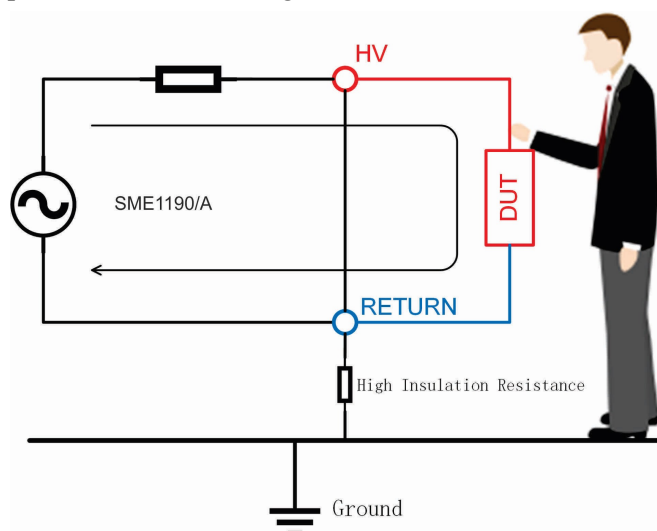
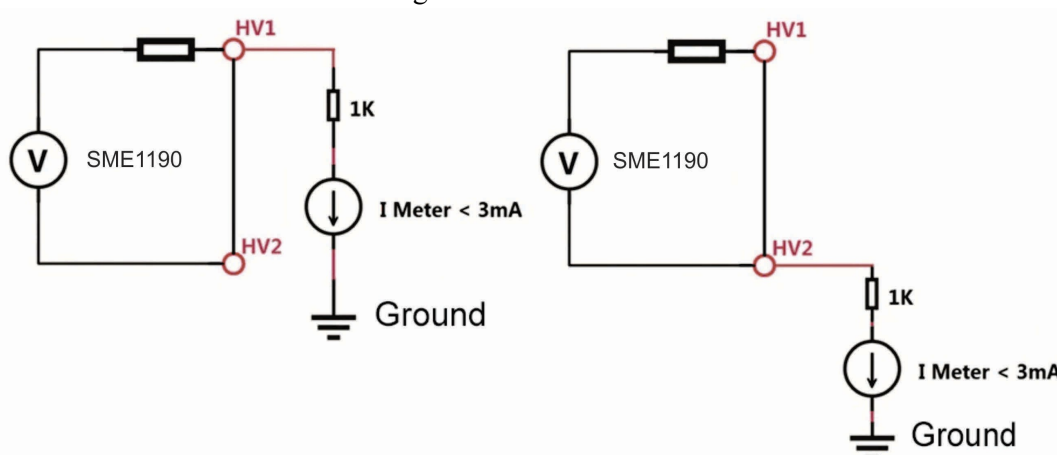

Figure 4-6
Figure 4-7 Relationship of HV1/HV2 Terminal to the Ground
- b) When the electric shock protection is set to FLOAT, the high-voltage output high terminal HV1, low terminal HV2 are in a float state, as shown in Figure 4-6. When the human body accidentally touches the test high voltage terminal, the low terminal HV2 of the high voltage circuit is not grounded, but isolated from the ground, equivalent to connecting a high insulation resistance, therefore, the current through the human body will not exceed 3 mA, thus ensuring the safety of operator. As shown in Figure 4-7.